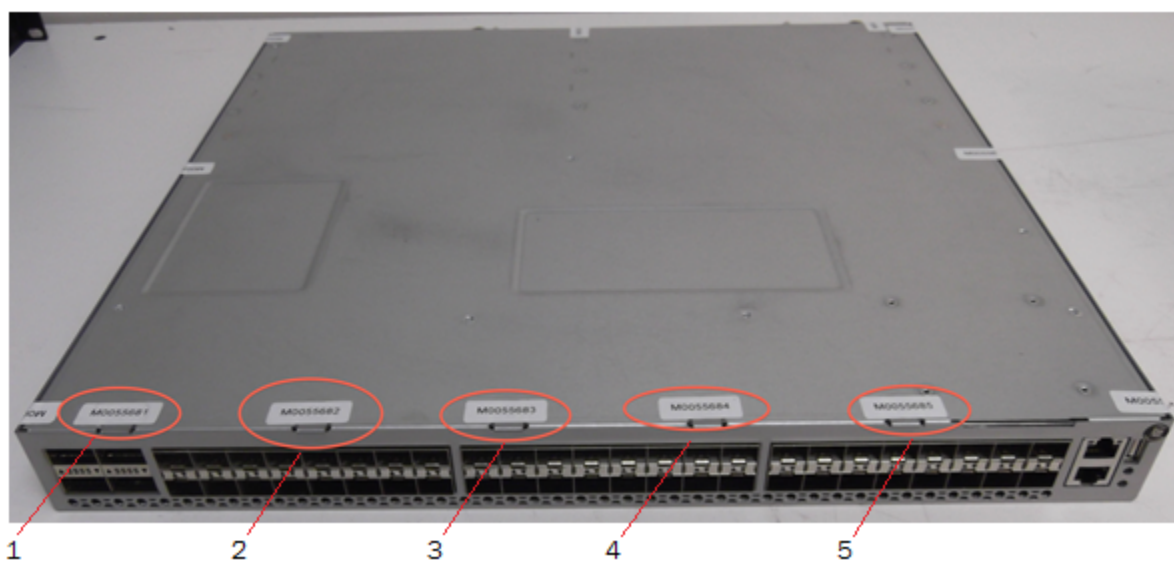
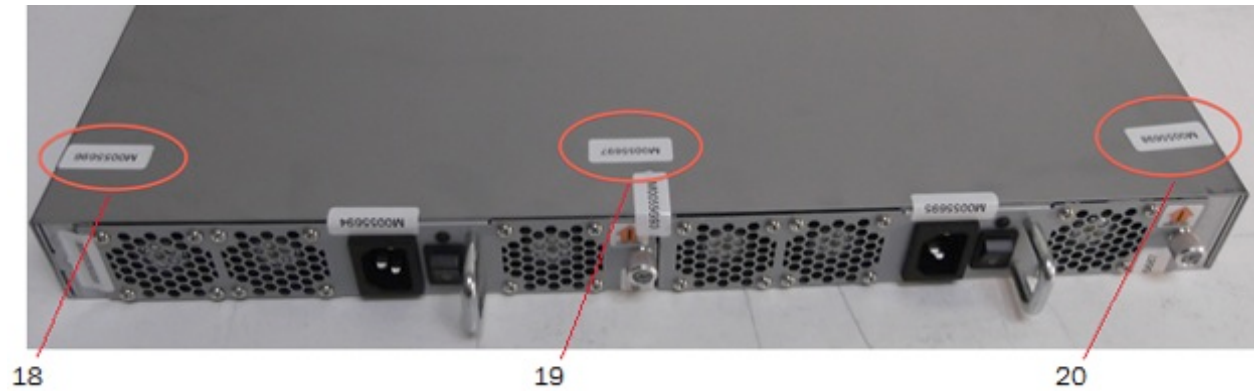

Figure 19 VDX 6740-24, VDX 6740-48 and VDX 6740-64-ALLSW bottom port side seal locations
Figure 23 VDX 6740-24, VDX 6740-48 and VDX 6740-64-ALLSW top non-port side top cover seal locations
Twenty (20) tamper evident seals are required to complete the physical security requirements for the -R and -F configurations of the BR-VDX 6740-24, BR-VDX 6740-48 and BR-VDX 6740-64-ALLSW. See Figure 19 through Figure 23 for details on how to position each seal.
1. Apply one (1) seal over the screws along the bottom port side surface of the chassis. Five (5) seals, 1 to 5, are required to complete this step. See Figure 19 for details on how to position each seal.
5. Apply one (1) seal over the screws along the top port side surface of the chassis. Three (3) seals, 18 to 20, are required to complete this step. See Figure 23 for details on how to position each seal.